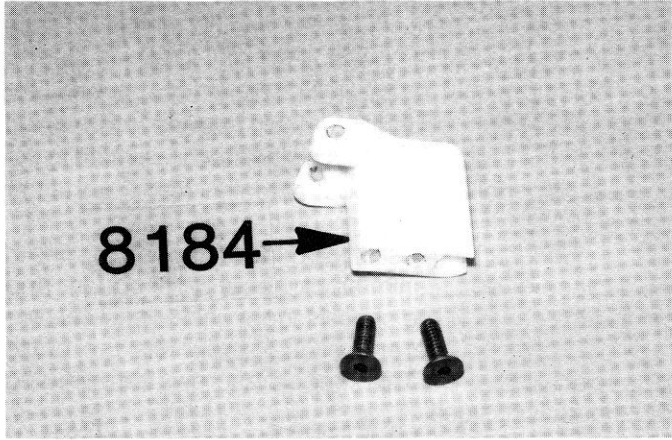

**Fig. 19**
□ **Figs. 18, 19 & 20**— We'll want to install the two allen head 4/40 "tweak" screws next, but because we've narrowed the T-bar and moved the screws closer in, we'll have to trim off some of the white plastic pivot socket, as shown in Fig. 19, to clear the two screws.